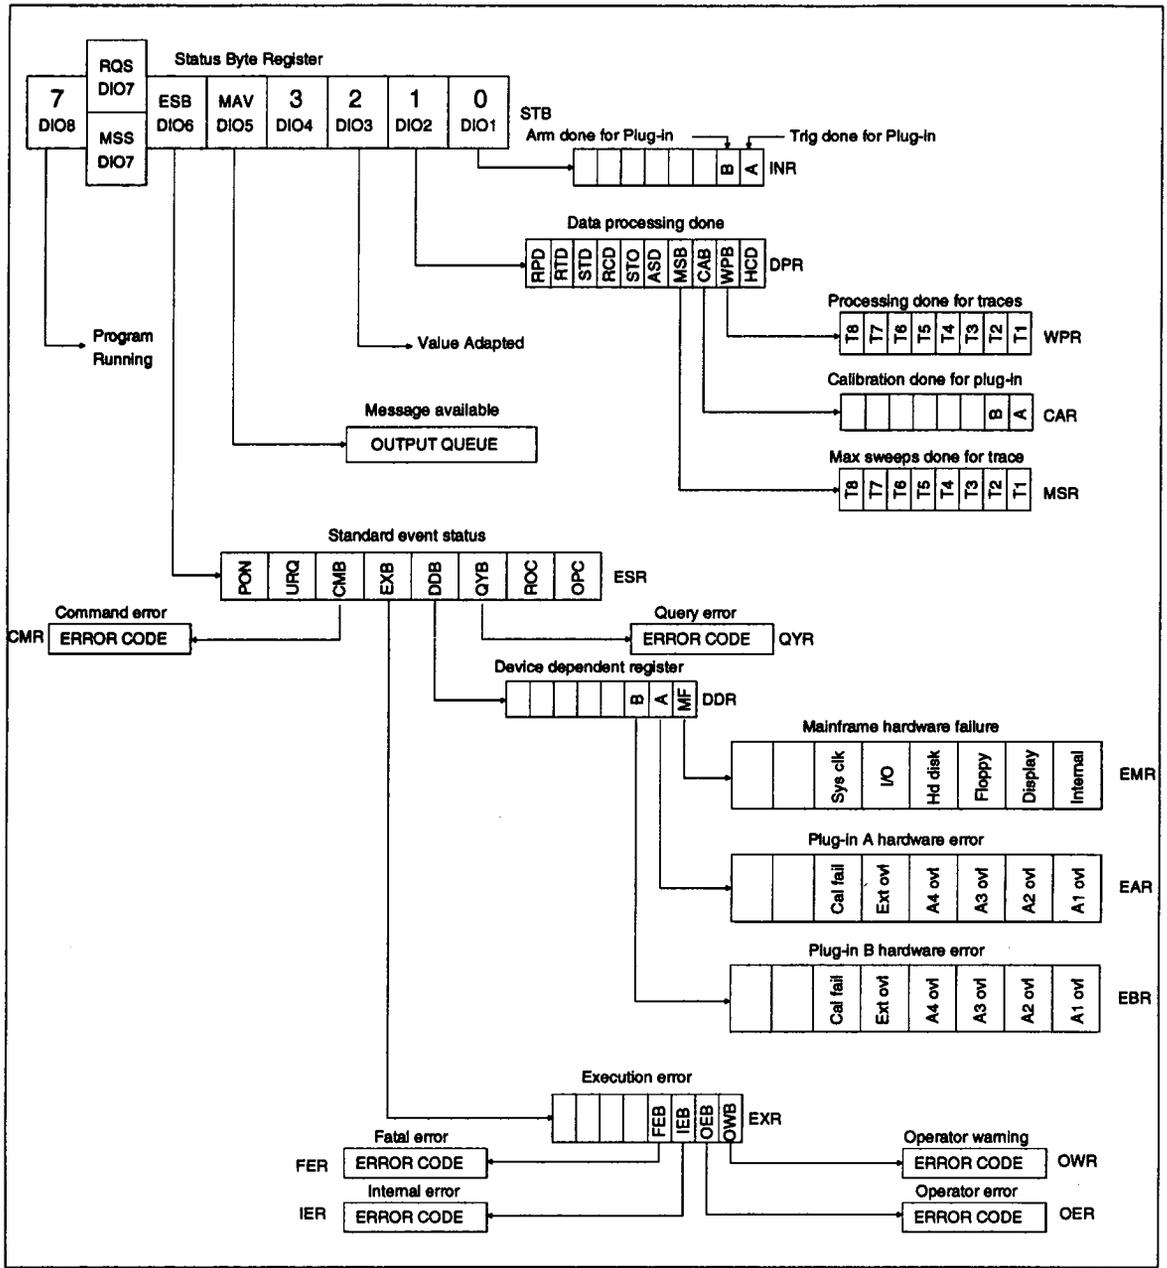

Figure 4.3: 7200A Status Byte Definition
*STB?. The 7200A would return the hexadecimal number 60 (see Figure 4.3), indicating that the Event Status Register (ESR) changed.
The *STB? query does not alter any bits in the status byte. Only the *CLS command can clear the status byte, except for the MAV Message Available bit which depends on the state of the Output queue. STB is shown in Figure 4.3.